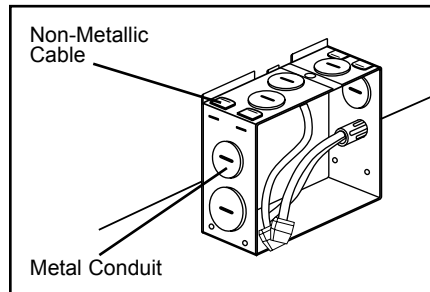

Figure 8
Step 2. Remove wiring box cover. Remove the appropriate knock-out(s) to accommodate the type of electrical service to be used/allowed by your local electrical code (Fig. 8):